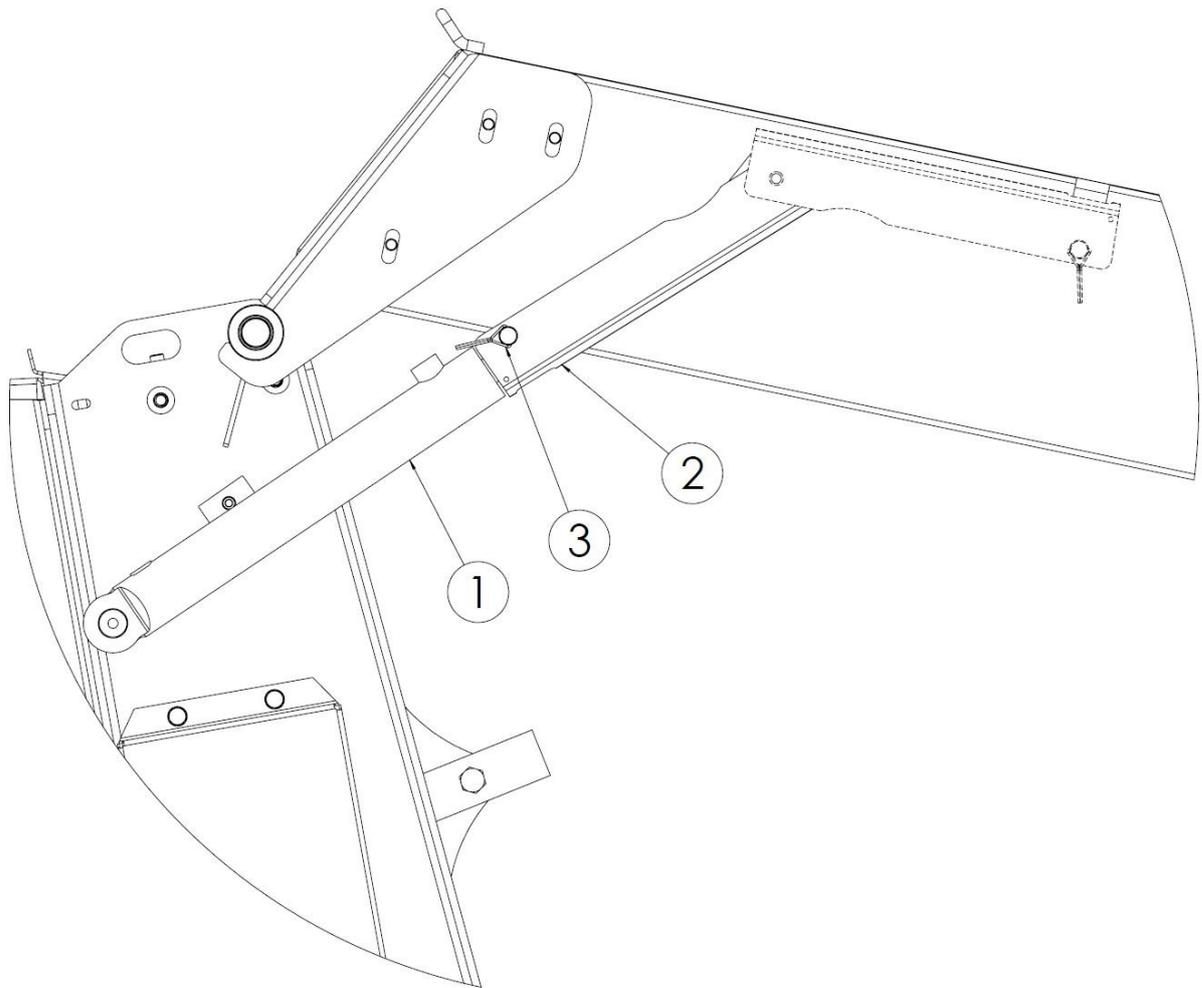

Figure 45. Locks for securing the cylinders
Secure the lifted spreader rear flap in its upper position, as shown in Fig. 45. On both sides of the spreader, use clamps (2) fixed to the upper pins of the hydraulic cylinders (1) to secure them. Move the clamps (2) fully upwards so that they embrace the stretched cylinder rods. Lock them with locking pins (3) against unauthorised cover closing. Unlock the clamps of the cover after completing the planned activities.